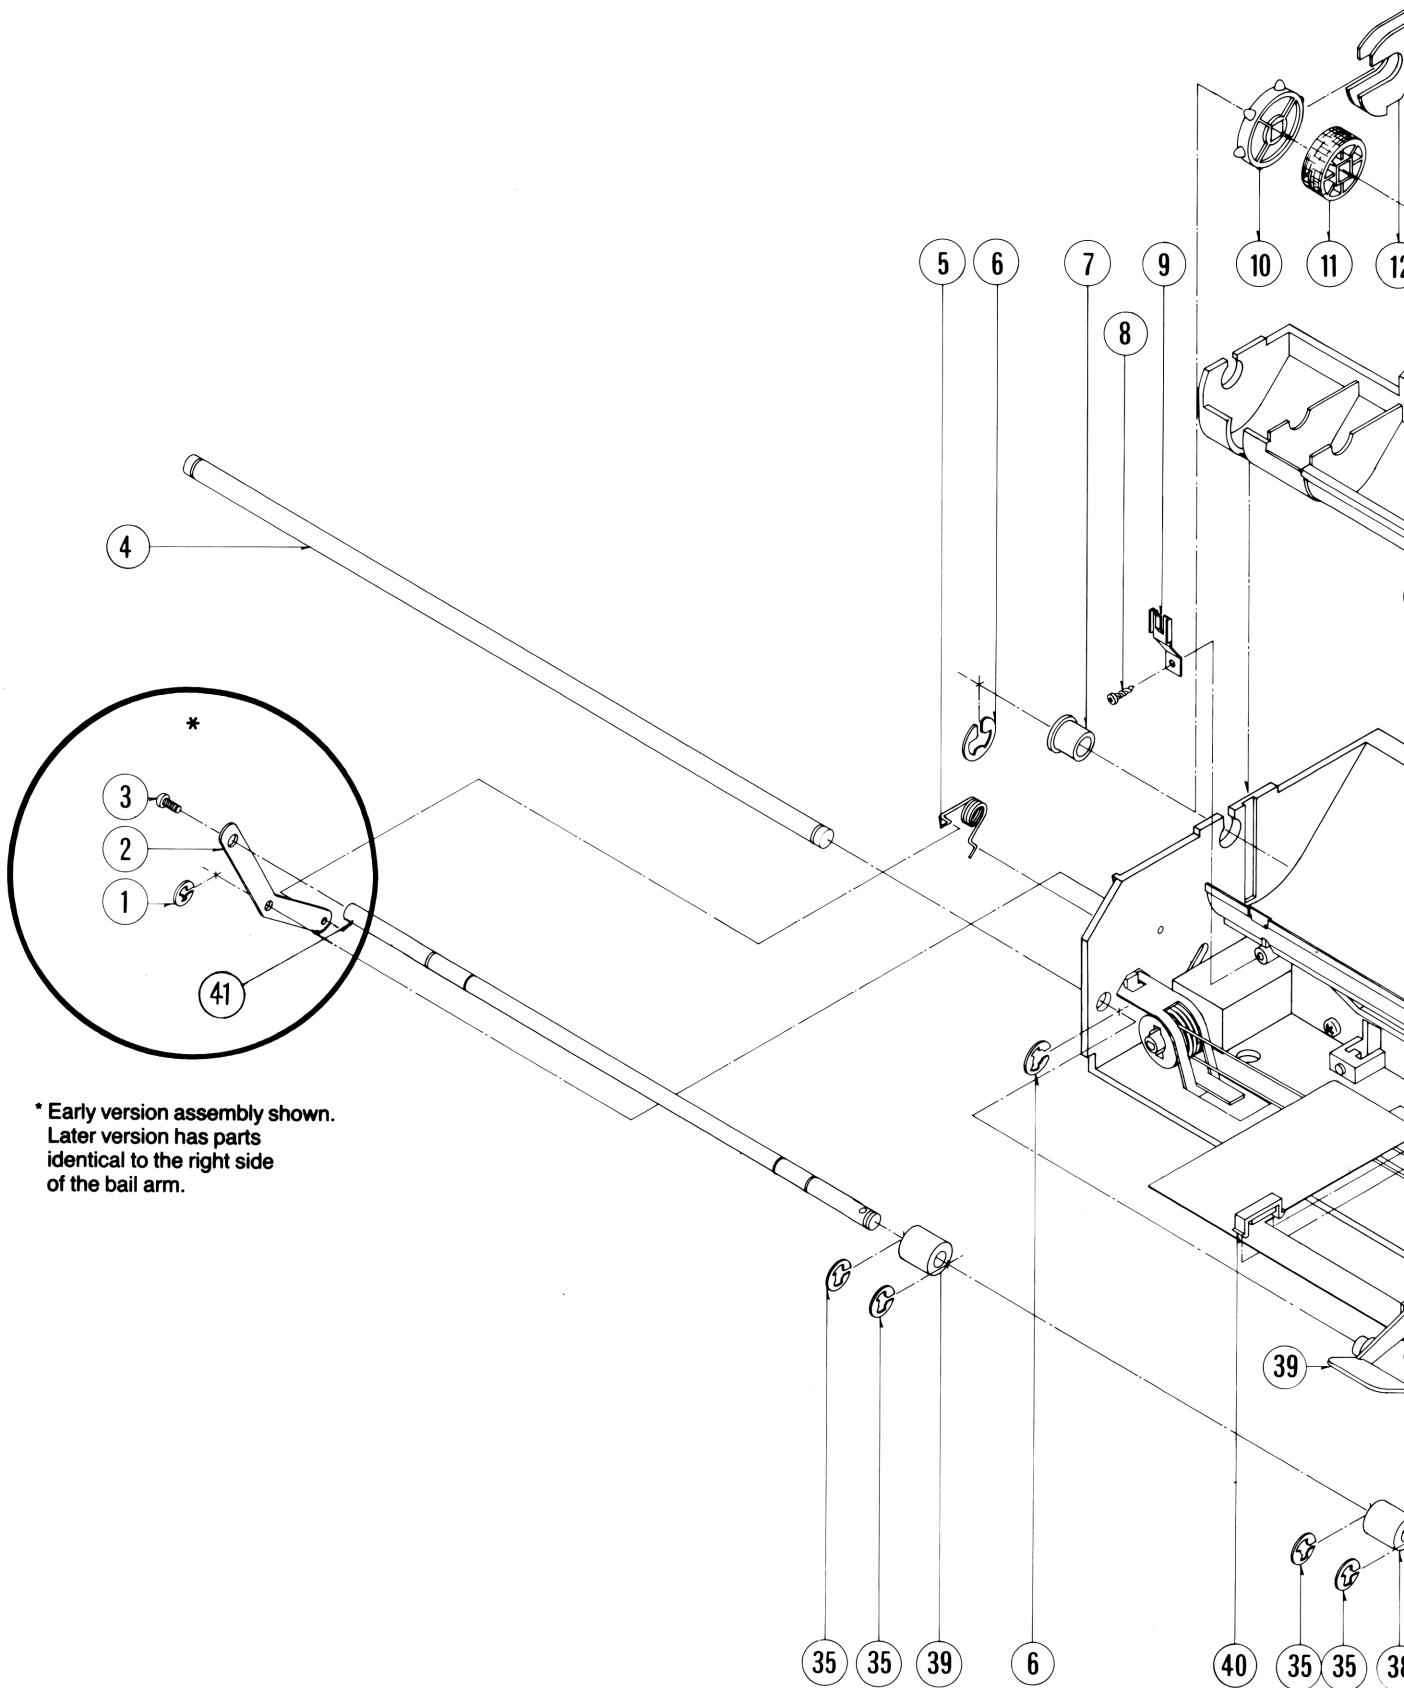
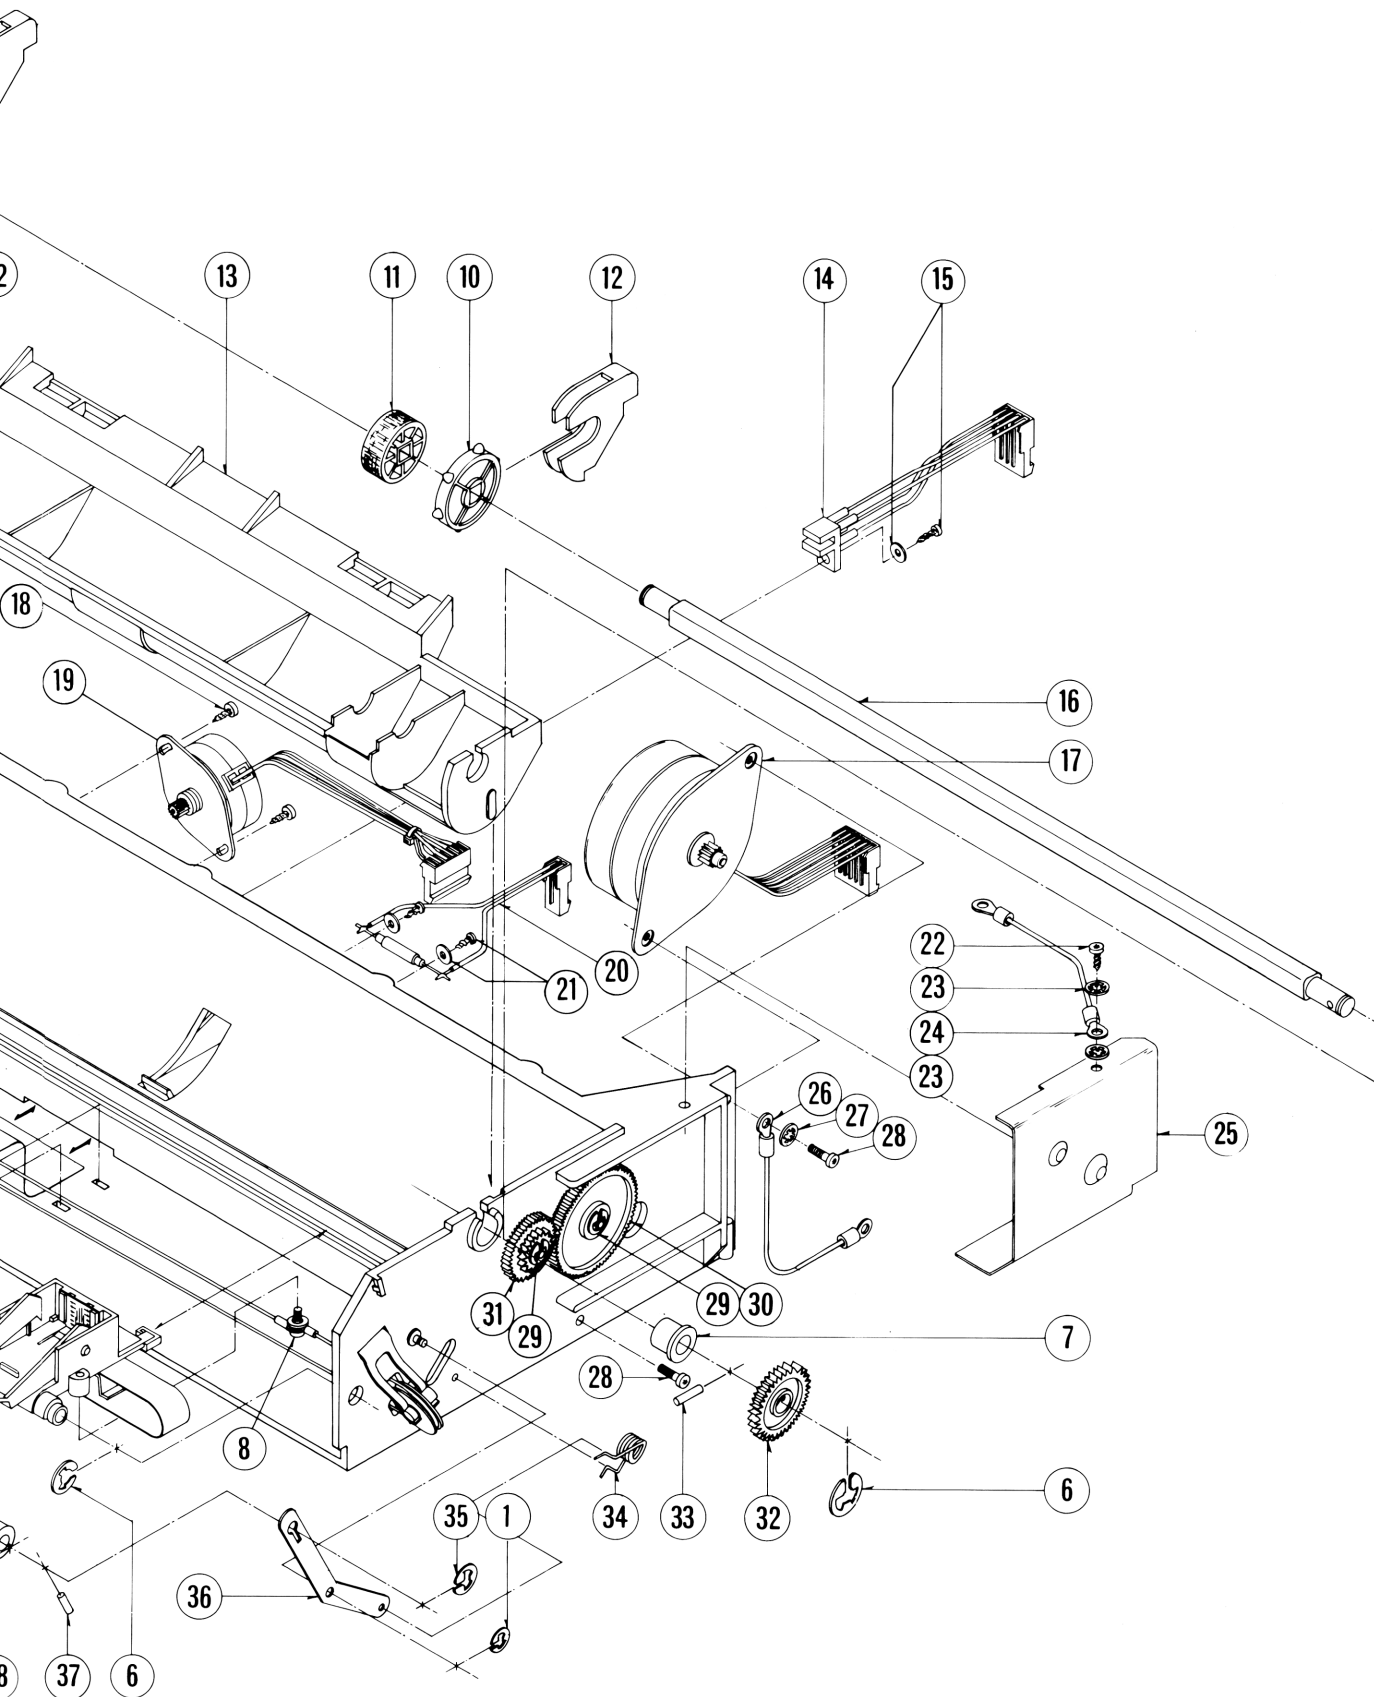

Figure 5-1, Print Structure Assembly
Figure 5-2, Print Mechanism Assembly with Motors
* The service mechanism assembly includes all mechanism parts, except the motors (see Figure 5-2). The print structure assembly is essentially a frame with gear box and cable (see Figure 5-1).
* See Figure 5-1.